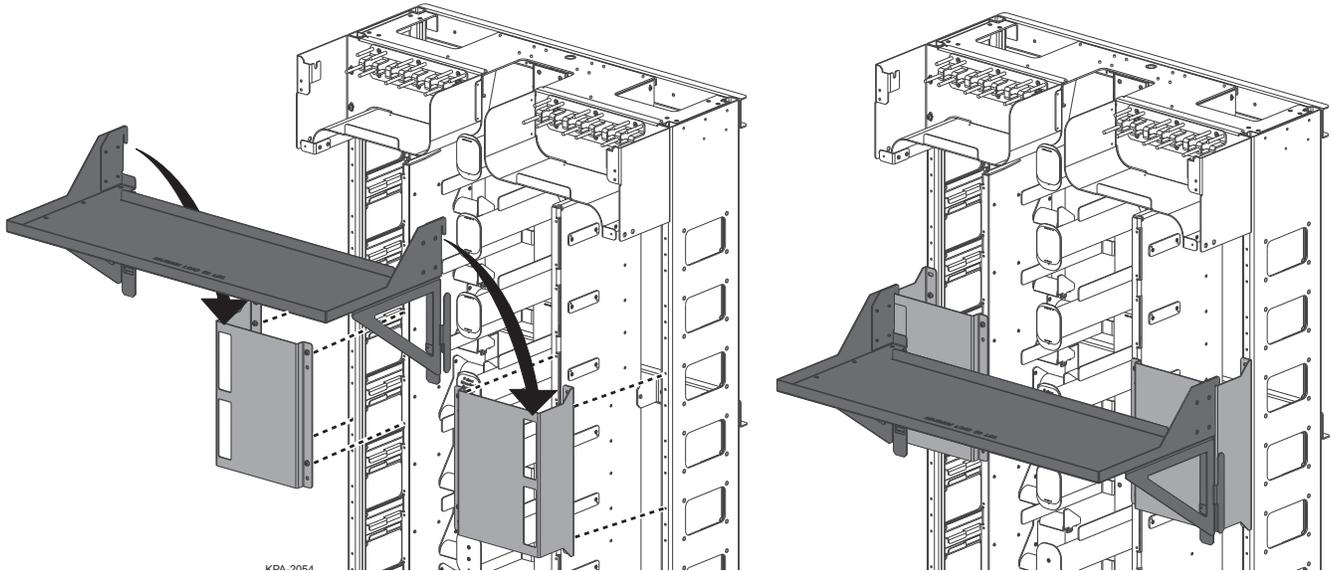

Figure 4 — Using Workshelf without Housing in Frame
- Step 1:** Install the workshelf mounting brackets at the desired height on the exterior uprights on each side of the frame as shown in Figure 4.